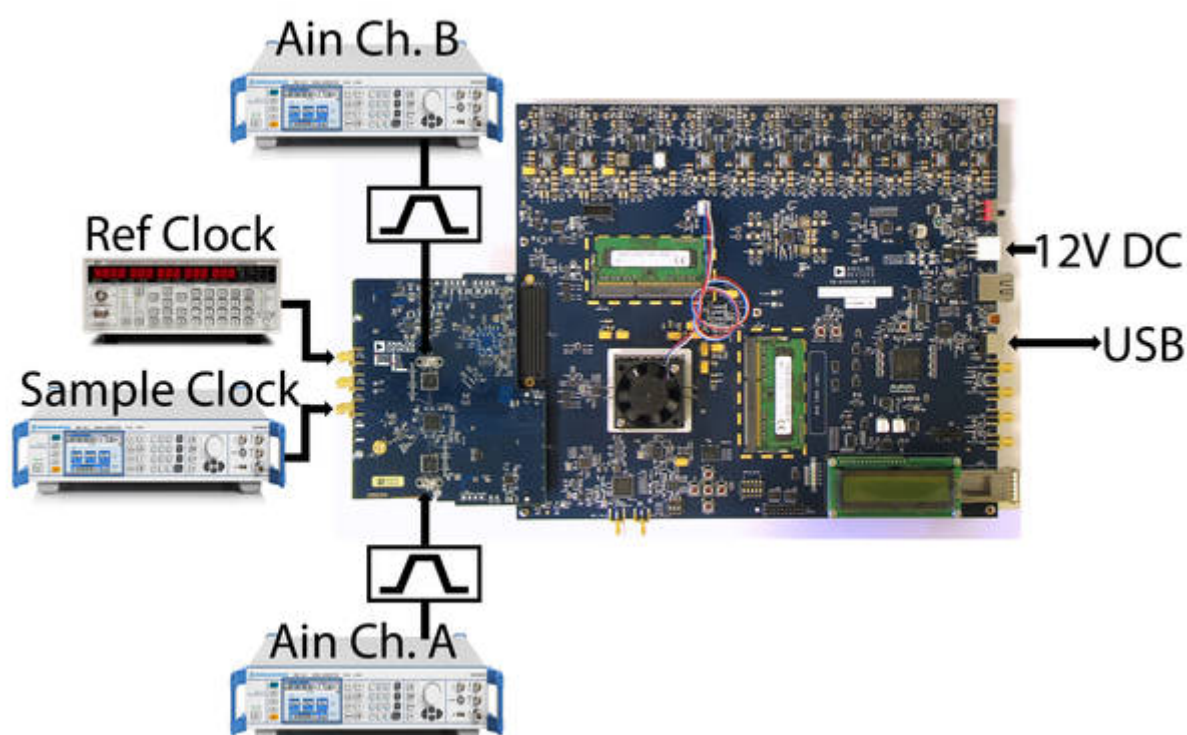

Figure 2. Evaluation Board Connection—AD9680-1000EBZ/AD9234-1000EBZ (on Left) and
1. Connect the evaluation board to the ADS7-V1EBZ data capture board, as shown in Figure 2.
5. If the Device Manager does not show the ADS7-V1EBZ listed as shown in Figure 2, unplug all USB devices from the PC, uninstall and re-install SPIController and VisualAnalog and restart the hardware setup from step 1.